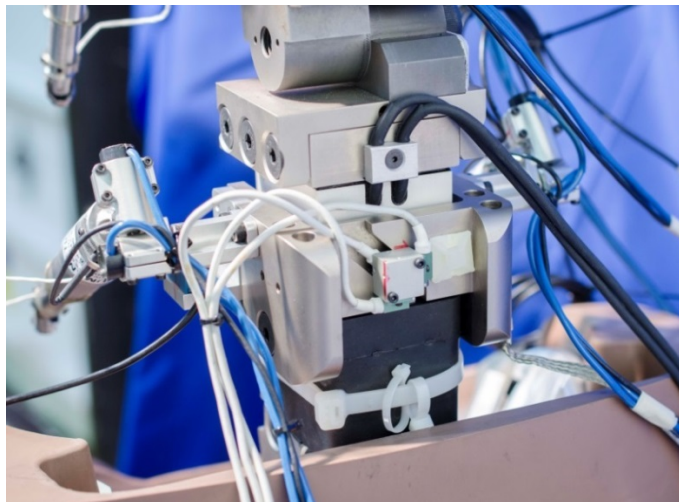

Figure 6-30. Install tri-pack accelerometer block to thoracic spine load cell flex joint adaptor plate
- 6.2.2.23 Secure the Tri-Pack Accelerometer Assembly (472-4203) to the Thoracic Spine Load Cell Flex Joint Adaptor Plate (472-3731) using two M2 x 0.4 x 16 SHCS (Figure 6-30).